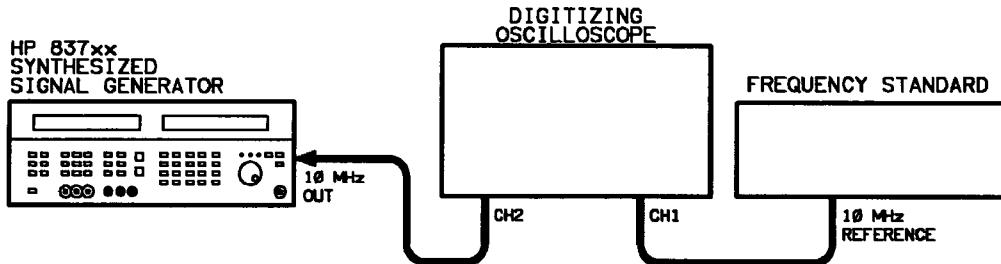

Figure 6-2. High Stability Timebase Adjustment Equipment Setup
1. Close PG(8) on the DIP switch, A3S1, as shown in Figure 6-2.
1. Set up the equipment as in Figure 6-2.